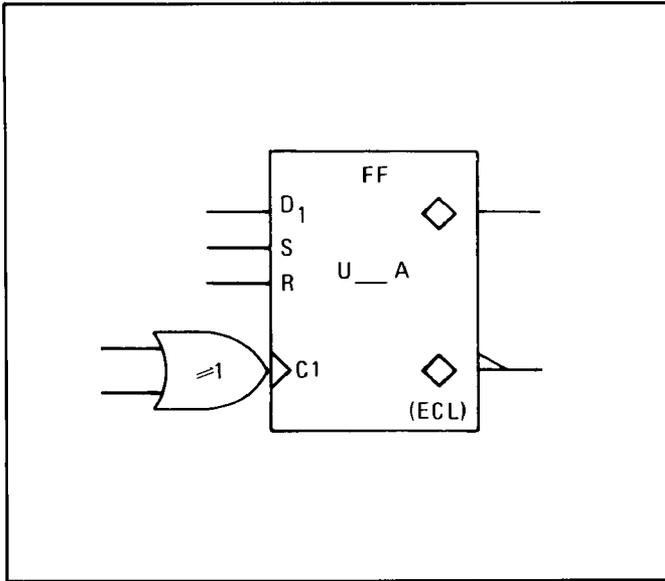

Figure 8-1. D-Type Flip-Flop Symbol
**a. D-Type Flip-Flop.** A D-type flip-flop symbol is shown in Figure 8-1. D-type flip-flops are normally used to store one bit of binary data. The data (a high or low voltage level) at the D1 input is stored and transferred to the outputs when the C1 input is active (i.e., during a low to high